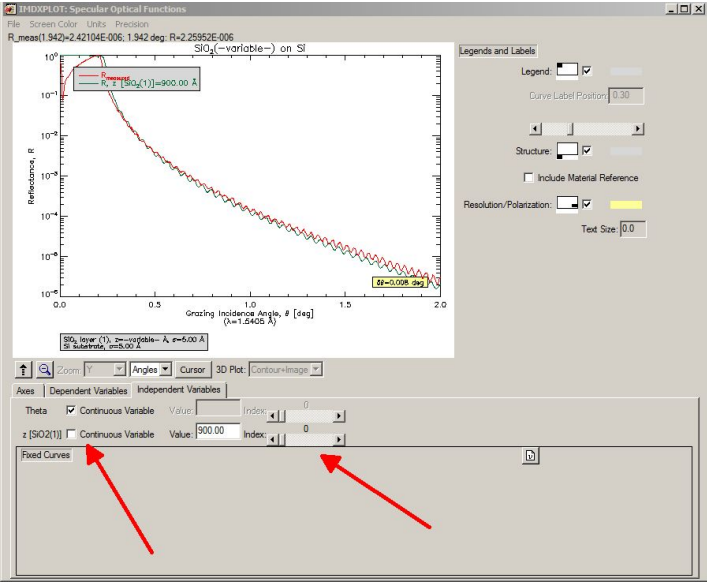
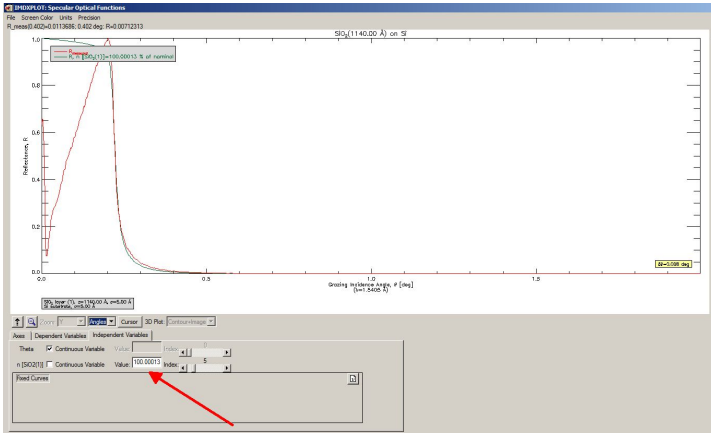
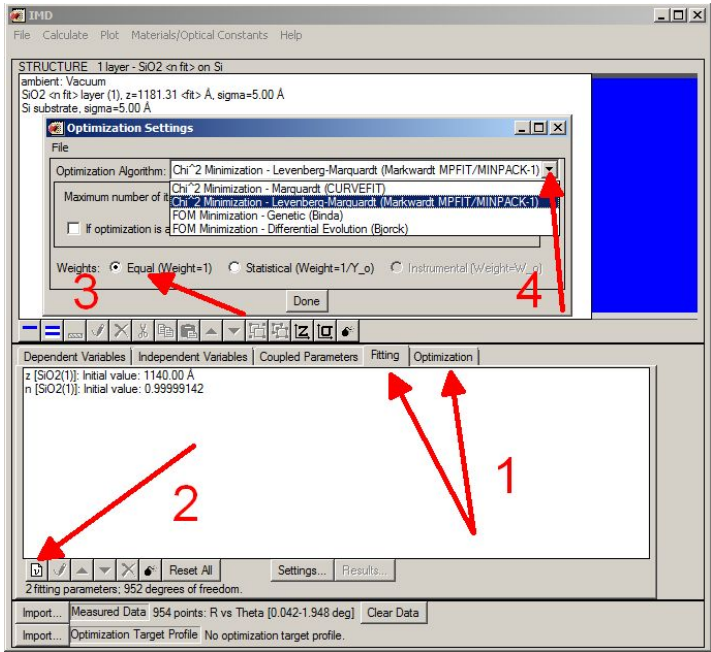

Figure 9: Manually adjusting the thickness in *IMD*.
Figure 10: Manually adjusting the optical index in *IMD*.
Figure 11: Fitting in *IMD*.
tion of the upper toolbar in the main *IMD* screen, choose log-scale via the 'Axis' tab and deselect $z[\text{SiO}_2(1)]$ as continuous variable. The screen should look like as in Fig. 9. Change the thickness slider smoothly in order to see the calculated reflectivity change. Try to find an optimal value and try then to fit the curve close to the critical angle. You see that the critical angle of the green calculated curve is at a higher value than that of the experimental red curve, meaning that the model density is too high. Since we use the optical constants database we need to fit on the optical refractive index. From the formula that relates the mass density to the optical index, we know that a higher density gives a lower refractive index. Thus the refractive index needs to be lowered. The changes are however subtle. Put the thickness at the optimal value in the structure tab and add the 'SiO₂ Layers(layer 1) Refractive index 1' independent parameter. The variation is specified as a percentage of the nominal value. A reasonable change would be to vary the index between 100.0000% and 100.0010% of the nominal value. Change also the precision of the optical index to 8 numbers. You should get the curve as shown in Fig. 10. Leave the y-scale in linear mode,
which is much more sensitive than logarithmic around the critical angle. We can observe in Fig. 10 that the normalisation was probably not correct. This can be corrected by re-importing the data with the proper multiplication factor for the reflectivity data. Alternatively, you can try to fit the data using one of the fitmodules implemented in *IMD*. Open the fit and then the optimization tabs in the main *IMD* screen (Fig. 11, 1). In the 'Fitting' tab you can add the parameters you want to optimize using the add button (2). If you open the optimization tab (1) the you can add other non-model related parameters such as scale factors. In the 'Optimization Settings' you can choose the 'Optimization Algorithm' (4). Try different ones to see what it gives. The weights are important to choose (3). We choose here 'Equal', *i.e.*, the same weight for each data point. This can be a good strategy if the experiment has been set up to have an approximately identical number of counts for each data point, *i.e.* longer counting times at higher angles.